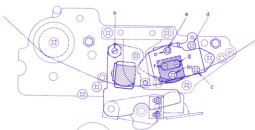

Fig. 6-2
1. ADJUSTMENT OF HEAD HEIGHT (SEE FIGURES 6-2 AND 3).
- 1) To adjust, turn screws (a) (b) (c) (Fig. 6-2) During "Normal Play" position so that the upper edge of the upper core of the Playback/Rec Head is the same height as the upper edge of the tape. Adjust by turning screw (d) (Fig. 6-2) during "Reverse Play" position so that the lower edge of the lower core of the Playback/Rec Head is the same height as the lower edge of the tape.